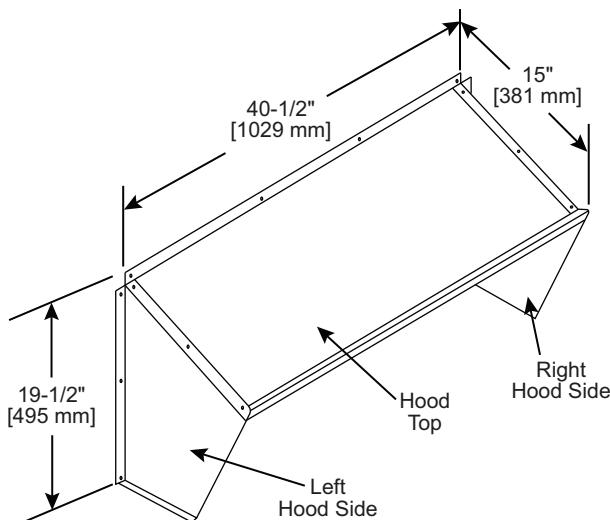

Fig. 36 — CRBARTHOD001A00 Hood Sides and Top
5. Using the provided hardware, screw the CRBARTHOD001A00 hood sides and top together (see Fig. 36).